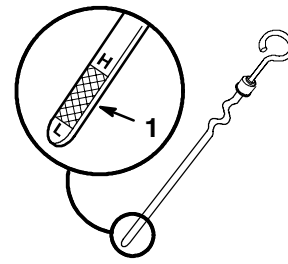

Figure 6
4. Pull out the oil dipstick and wipe the metal end clean (Fig. 6).
6. Pull the dipstick out and look at the metal end (Fig. 6). If the oil level is low (near the L mark), add oil; refer to Engine Oil, page 25.